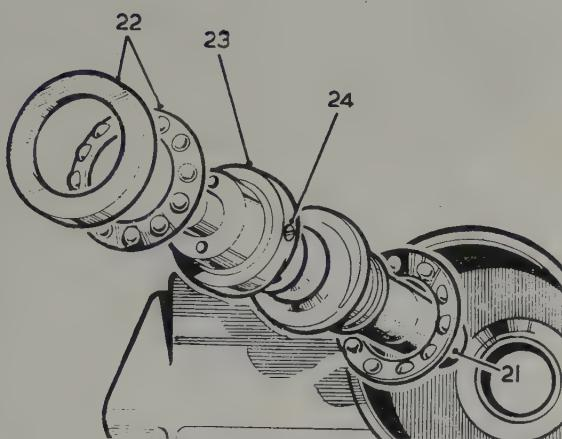

Fig. 11.41. Power steering box input shaft (21) outer bearing assembly (22) valve and worm assembly (23) trim screw (24)
- 15 Withdraw the outer bearing cup, the caged balls, the valve and worm assembly (Fig. 11.41). Do not dismantle the latter or touch the trim screw otherwise the calibration of the unit will be upset.